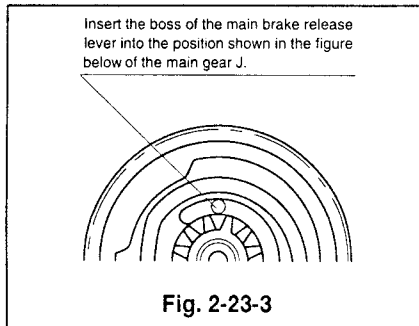

Fig. 2-23-3
- 1 Install the main brake release lever so that the shaft enters the inside groove shown in Fig. 2-23-3 of the main gear J.
- 2 Install the main brake(TU) and the main brake spring J(TU). (Refer to Para. 2-17 for the installation method.)
- 4 Install the sub brake(SP) and the sub spring(SP). (Refer to Para. 2-14 for the installation method.)